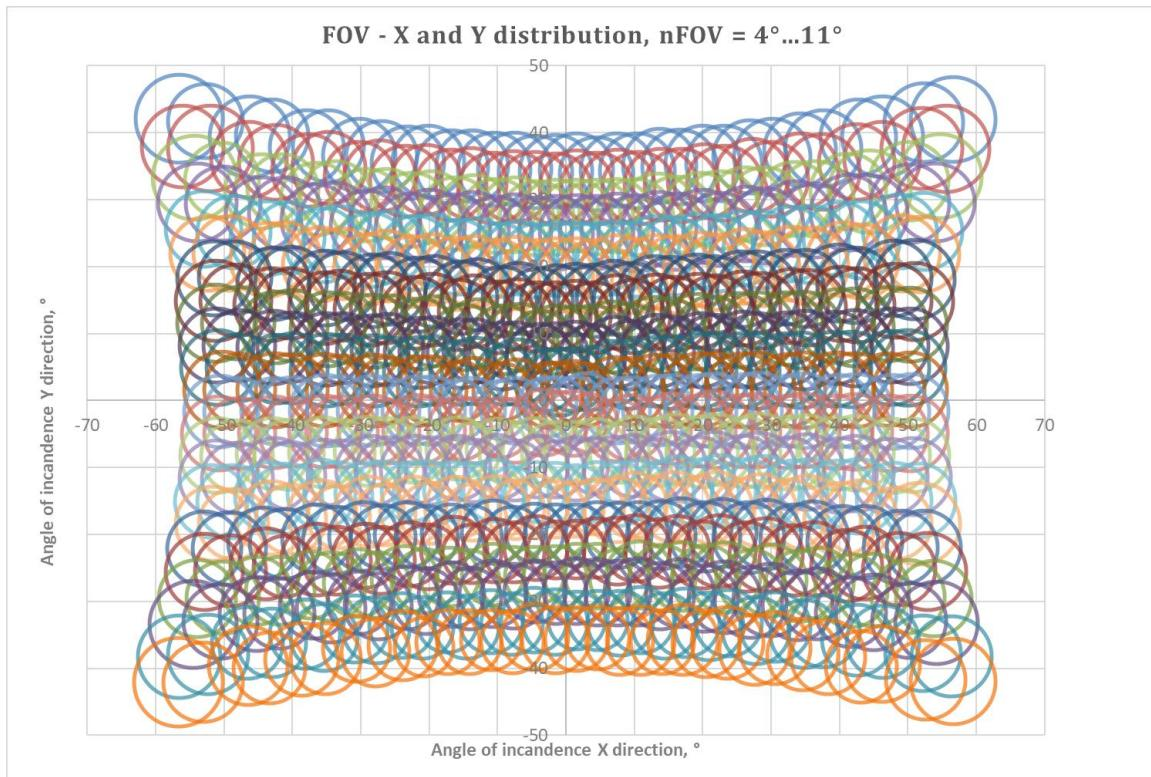

Figure 23 – MLX90642BCA (wide FOV) typical nFOV bubble diagram
**NOTE:** The above Figures 23 and 24 show the nFOV of each individual pixel. These figures show the distortion due the lens. In the field of view figures this looks like pincushion distortion, but the resulting image distortion is actually a barrel distortion.